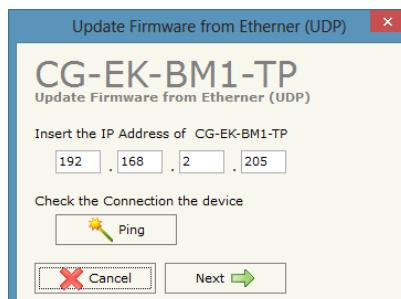

Figure 12 - Update configuration form
- Write the IP address **192.168.2.205** inside the Update Configuration form (see Figure 12 – Update configuration form)
- Provide the device IP address (see Figure 12 – Update configuration form). Make sure that the PC's network parameters are consistent with the IP address assigned to the device. Otherwise, change the PC's network settings
- Press *Ping* button; if you correctly applied the procedure, the text “*Device found!*” will appear (see Figure 12 – Update configuration form)
- Press *Next* button (see Figure 12 – Update configuration form)
In case of manual firmware update, replace “Sim67811.sim” file in the system folder “C:\Program Files (x86)\Ekinex\Compisitor(CG-EK-BM1-TP)\Master”. After replacing, open *Update configurazione* form (see Figure 12 – Update configuration form) in the application program and start the proper sequence.